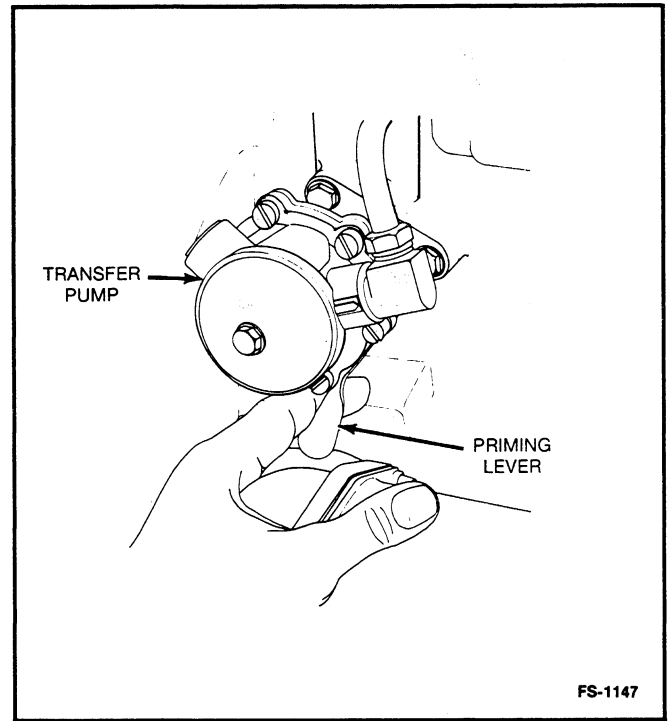

FIGURE 4-14. FUEL TRANSFER PUMP
3. Actuate the priming lever on the side of the transfer pump until fuel flows from the fitting (see Figure 4-14). If the camshaft transfer pump lobe is up, turn engine one revolution to permit hand priming.